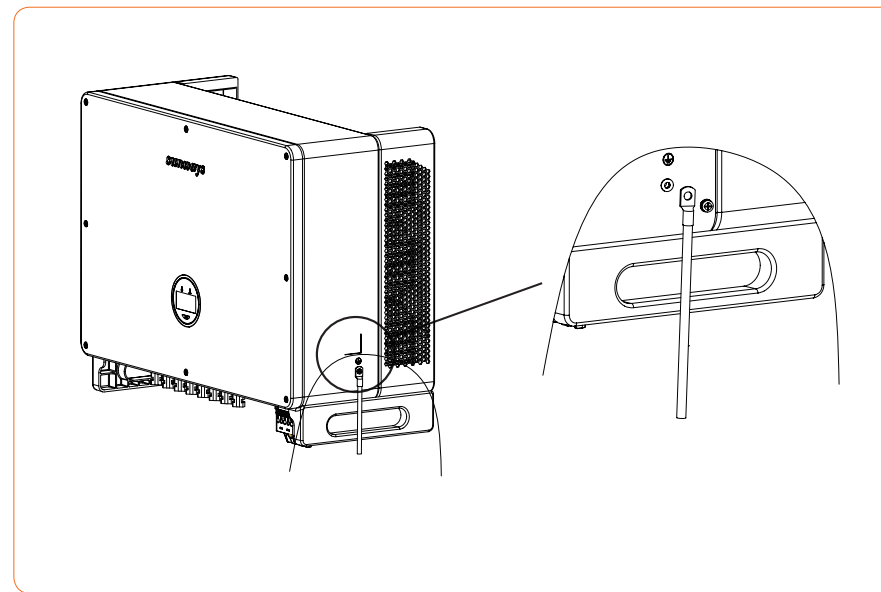

Figure 4-8 Grounding terminal connection
- ① The external grounding terminal is located in the lower right side of the inverter.
- ② Fix the grounding terminal to the PE wire with a proper tool and lock the grounding terminal to the grounding hole in the lower right side of the inverter, as shown in Figure 4-8.